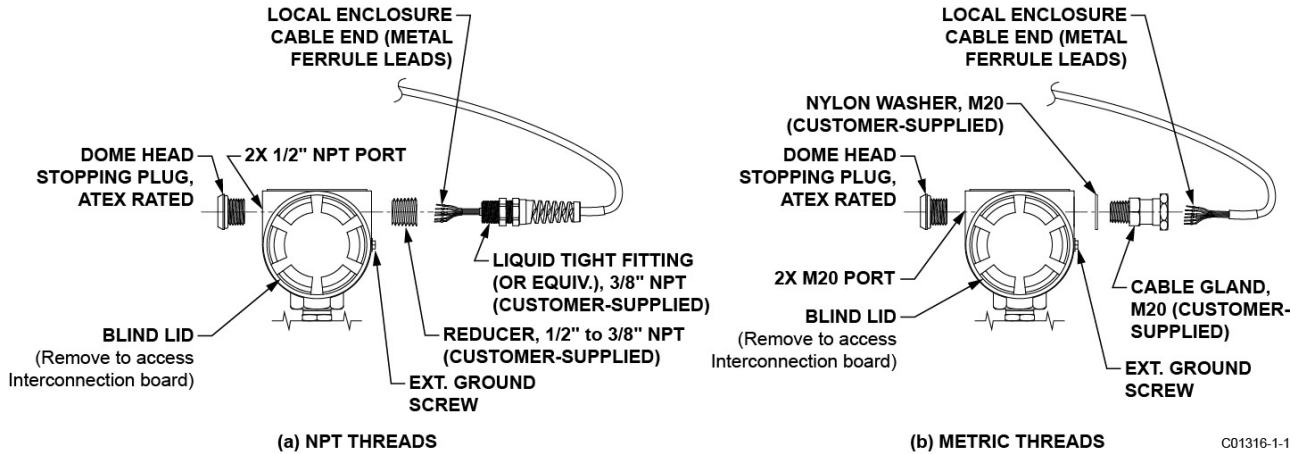
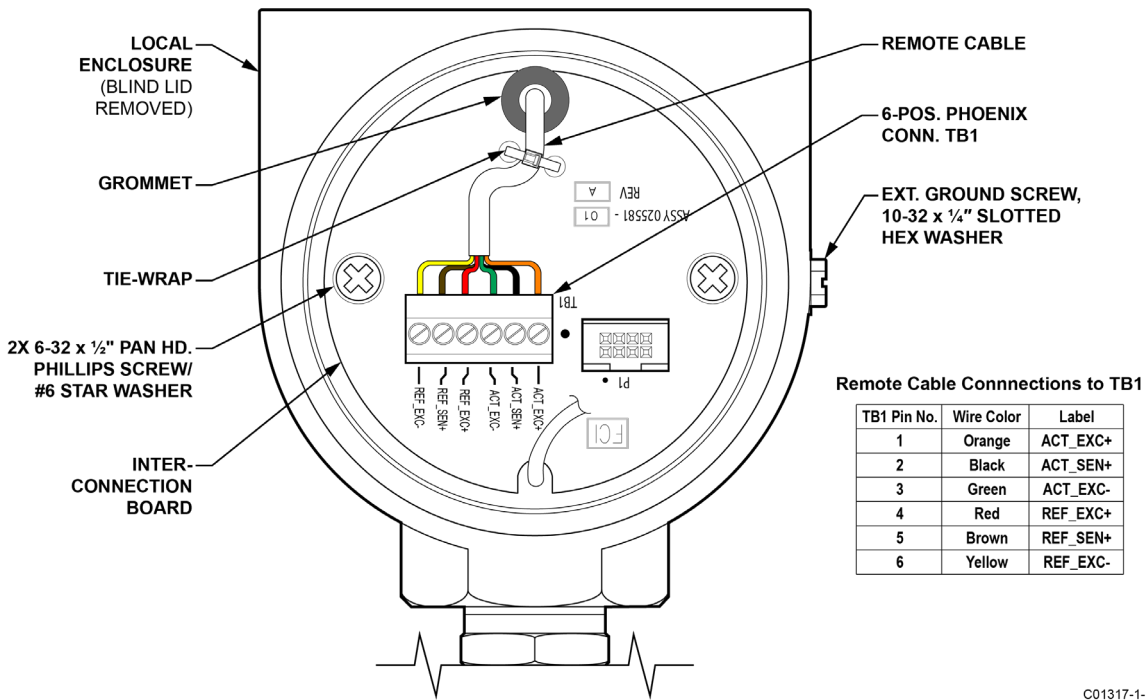

Figure 11 – Remote Cable Installation, Local Enclosure
Figure 12 – Local Enclosure Remote Cable Wiring
Figure 11 below shows the local enclosure remote cable installation.
Figure 12 below shows the remote cable wiring inside the local enclosure. After installing the local enclosure in the pipe follow the steps below to install the local enclosure cable. Refer to Figure 11 and Figure 12 when following the steps.
1. Remove local enclosure blind lid covering interconnection board (note orientation of external ground screw in Figure 12). Remove blind lid as described in Accessing the Interface Board Connection Terminals on page 18.
4. Install remote cable to local enclosure as shown in Figure 11. For NPT port units: Use an appropriate size reducer as applicable to the cable fitting used and the application. Ensure adequate cable service loop length before tightening the customer-supplied cable fitting.
6. Connect the cable leads to Phoenix connector TB1 as shown in Figure 12. After attaching all leads cinch tie-wrap to secure cable to board (snip off excess tie-wrap length).